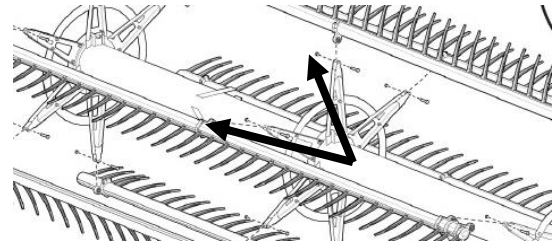

Figure 266
5. The reel bat can be replaced by removing the mounting bolt on each reel spider. This will allow the entire reel bat to be removed. Figure 266